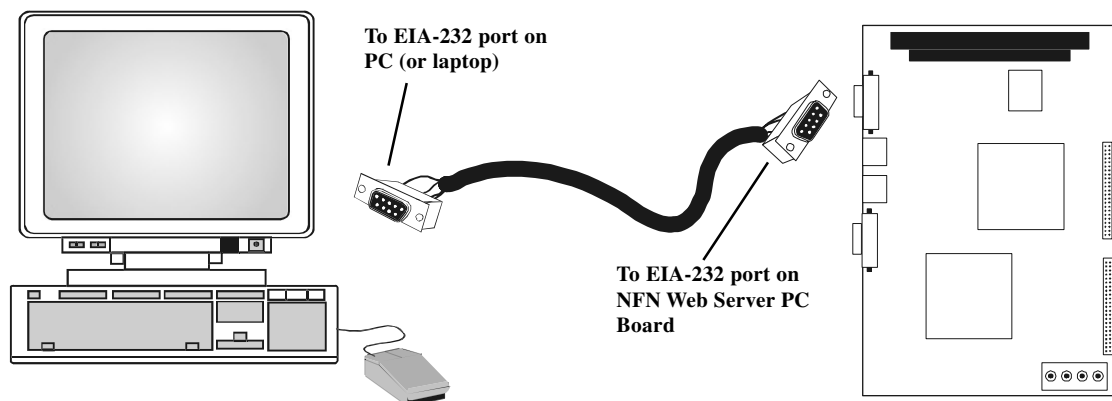

Figure 2.9-1: PC to PC Serial Connection
1. Make a PC-to-PC hardware connection between Veri•Fire™ and the NFN Web Server (see Figure 2.9-1).